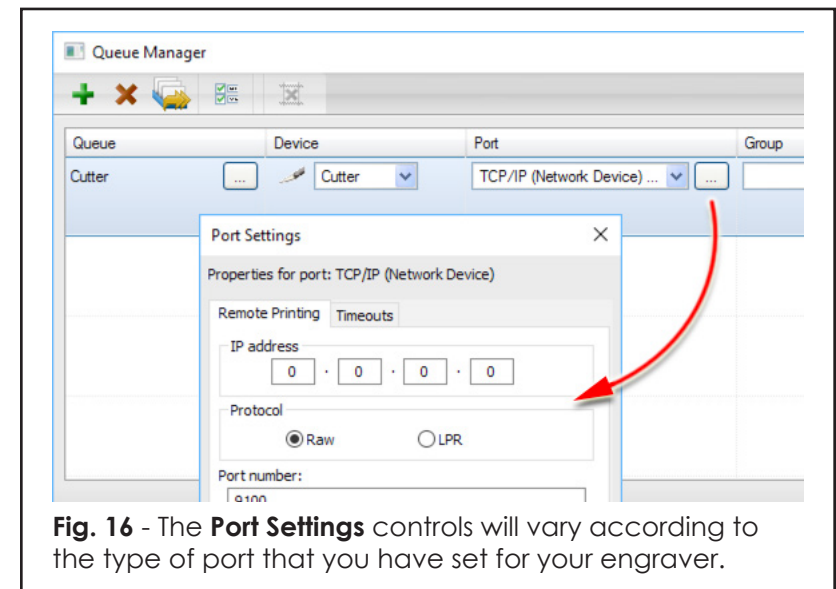

Fig. 16 - The **Port Settings** controls will vary according to the type of port that you have set for your engraver.
- a) Choose **Queue** menu >> **Manage Queues** to open the **Queue Manager** dialog (Fig. 16).